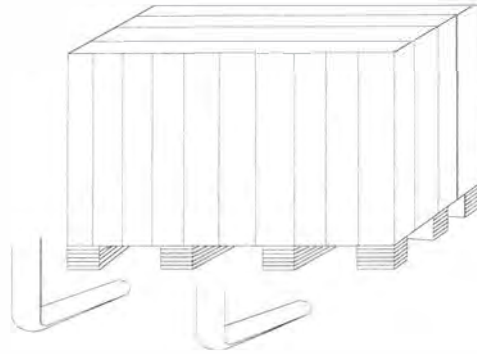

Fig4
4. 1. 1After being sure that the package of your machine is perfect, you can carry the wheel balancer to the installation site.(Fig4). The choice of the installation should comply with the following requirements. The ambient temperature is 0°C-50°C and the RH ≤85%. And